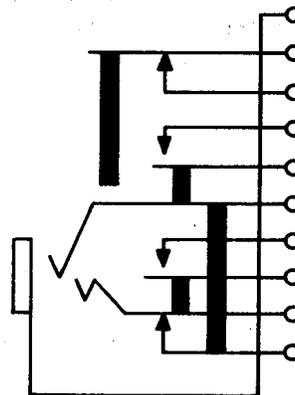

Fig. 4—284-Type Jack
**2.04 284A, C, AM, and CM:** These single-mounted jacks (Fig. 4) are used with the 310 or similar-type plugs.
(a) **284A:** The 284A jack (Fig. 4) is intended to be mounted with the springs in a vertical plane.
(b) **284C:** The 284C jack (Fig. 4) is intended to be
(c) **284AM:** The 284AM jack (Fig. 4) is intended to be mounted with the springs in a vertical plane. This jack is equipped with mechanically wrapped terminals.
(d) **284CM:** The 284CM jack (Fig. 4) is intended to be mounted with the springs in a horizontal plane. This jack is equipped with mechanically wrapped terminals.